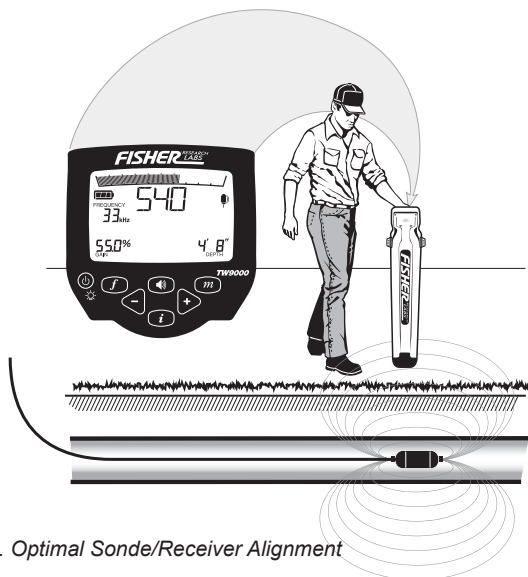

Figure 17. Optimal Sonde/Receiver Alignment
STEP 6. Properly align the Receiver to the direction of the Sonde. See Figure 17 on page 45.